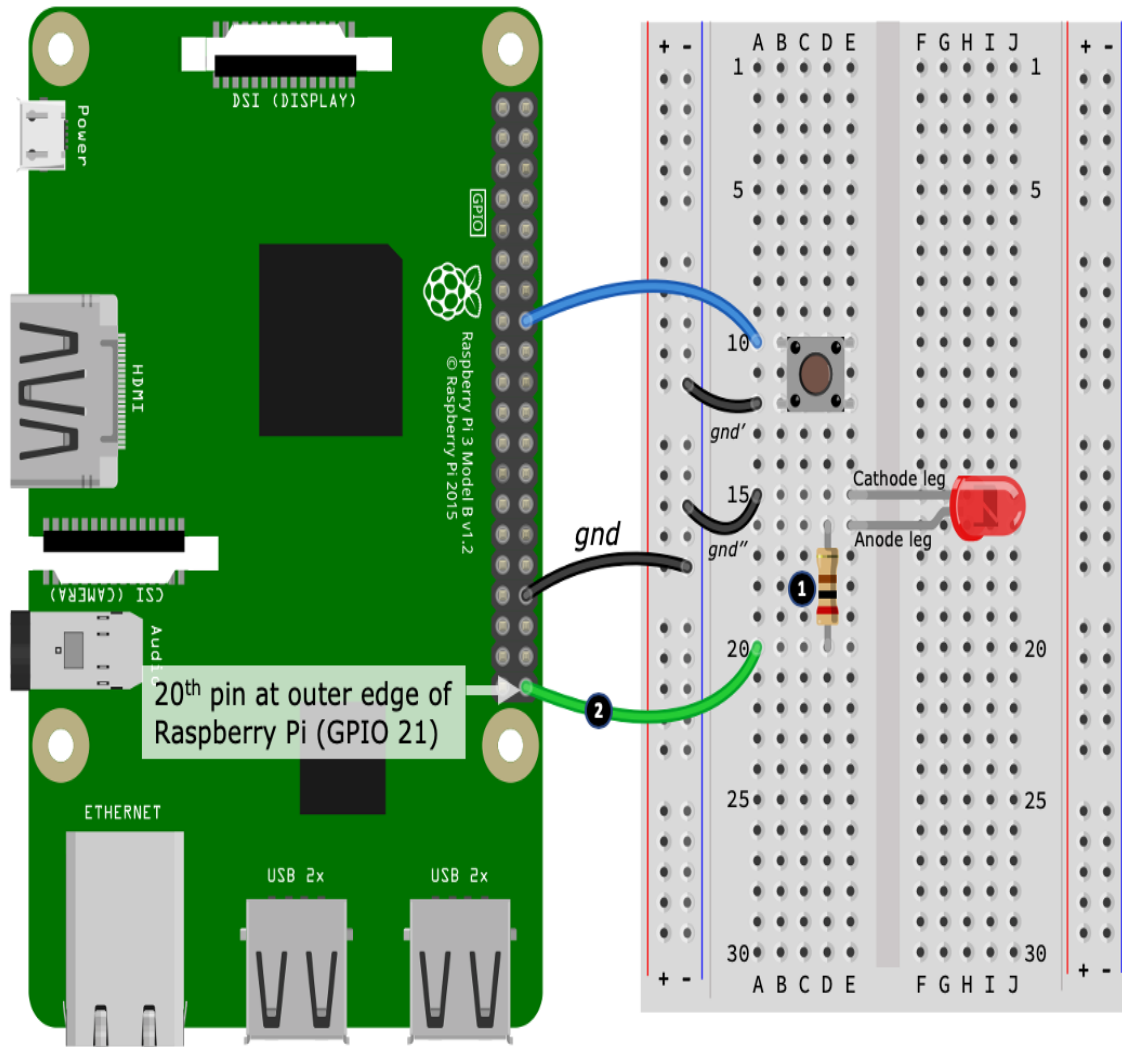
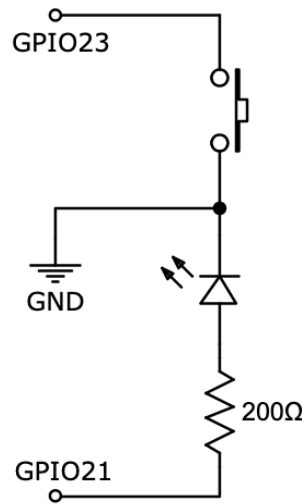
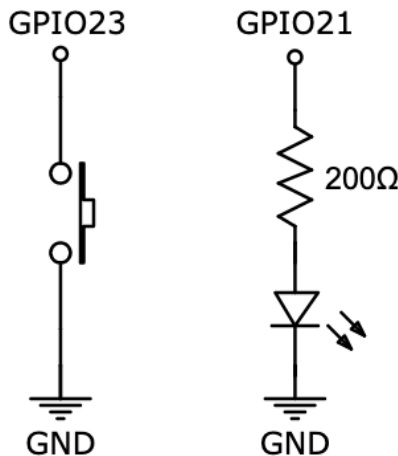

Figure 2.7 – Completed button and LED circuit on the breadboard
Figure 2.8 – Schematic diagram of the breadboard circuit from Figure 2.7
Figure 2.12 – Alternative schematic diagrams of the breadboard circuit in Figure 2.7
Throughout this book, we will be building many electrical circuits, and we will do this using an electronic breadboard. In the initial chapters, I will present many of the circuits with both a breadboard layout similar to that illustrated toward the end of this section in *Figure 2.7* and with a schematic diagram as shown in *Figure 2.8*.
*Figure 2.7* demonstrates the resistor connection we need to create. Please refer to this as you follow the forthcoming steps:
Here is how to connect the resistor into your breadboard. The following step numbers match the numbered black circles in *Figure 2.7*:
Let's start by looking at a schematic diagram that represents the breadboard circuit we just created as shown in *Figure 2.7*. Our semantic diagram is illustrated here:
Our simple circuit certainly does not come under the banners of *large* or *complex*, however, to illustrate the concept of common ground, I have redrawn the schematic diagram shown originally in *Figure 2.8* here, only this time using multiple ground symbols:
Although our alternative schematic diagram looks like two separate circuits, they are electrically connected exactly the same as our original schematic diagram in *Figure 2.8*.
Please take a moment now to examine both *Figure 2.8* and *Figure 2.12* and see whether you can work out how the two diagrams are electrically the same.
All I have done here is broken the line (labeled *gnd* in *Figure 2.8*) and redrawn the push button subcircuit and LED/resistor subcircuit in a different orientation and used separate ground symbol for each subcircuit.